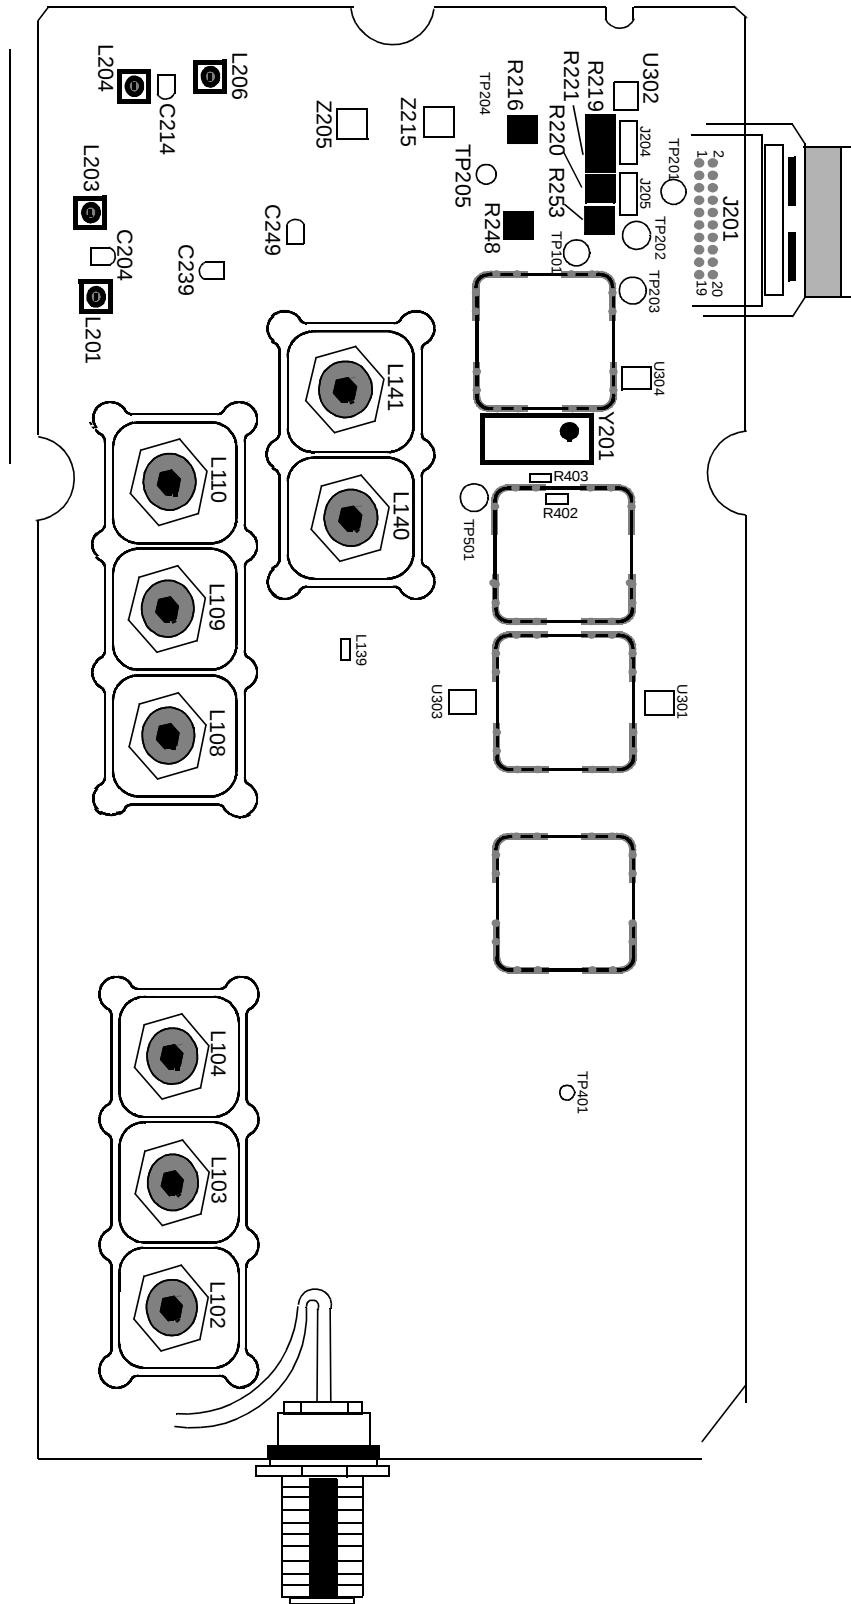

Figure 3-28 RECEIVER ALIGNMENT POINTS
4. Apply power to the Receiver by plugging the 20-pin cable from the Interface Board into J201 (see Figure 3-28).